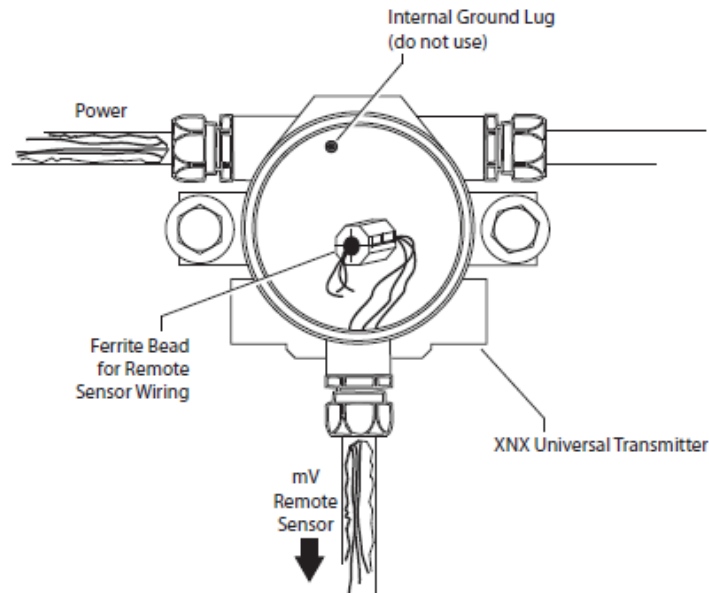

Figure 48. Ferrite bead wiring
3. Wire the pluggable terminal block as shown in Figure 45 then plug the connector into the back of the mV personality board. In remote mount MPD configurations, the 3 wires connecting the pluggable terminal block and the remote MPD must be routed through the supplied ferrite bead (Honeywell Analytics part no. 0060-1051, supplied in the accessory kit) as shown in Figure 48.